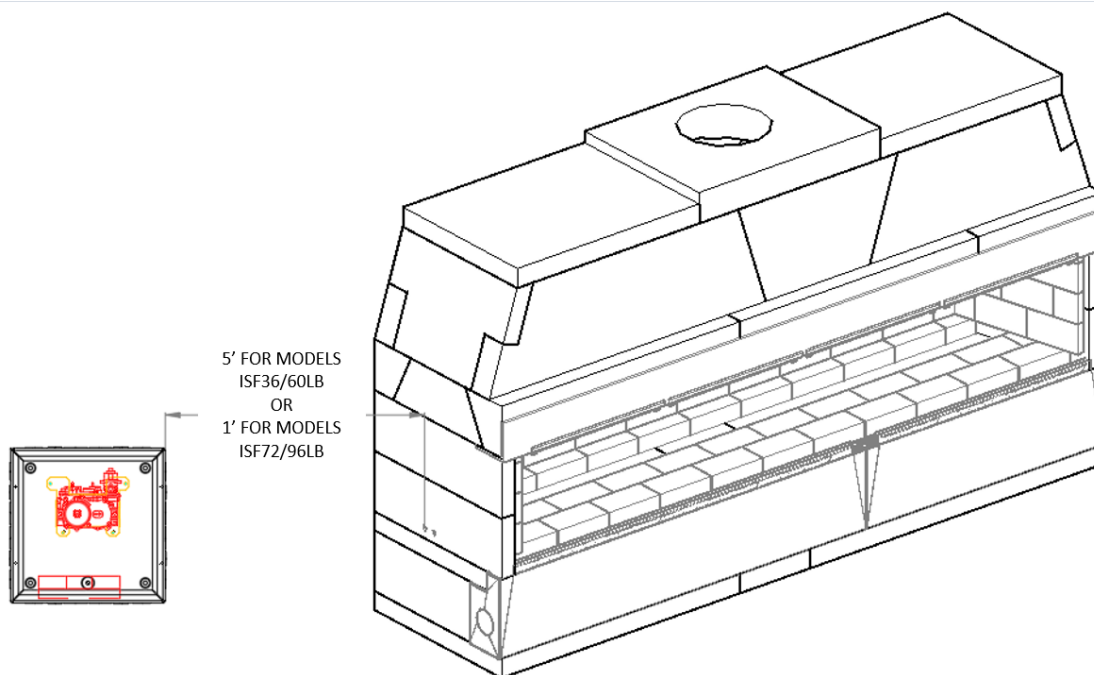

FIGURE 58
- 1) The valve control box comes with an 84" pilot assembly lead; therefore, the box must be mounted within 5' of the fireplace for models ISF36/60LB and within 1' for models ISF72/96LB. **(Figure 58)**